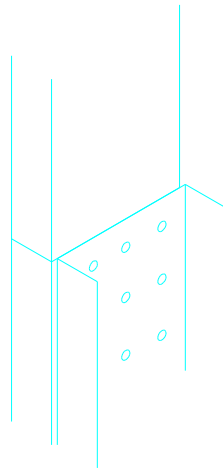

Figure 12.27.5
- 17) At the top of the bulkheads, layout and drill nine attachment holes from the forward bulkhead to the aft bulkhead. You will bend the new bulkhead over to accomplish this. Bulkheads are back to back at the top as in Figure 12.27.5.